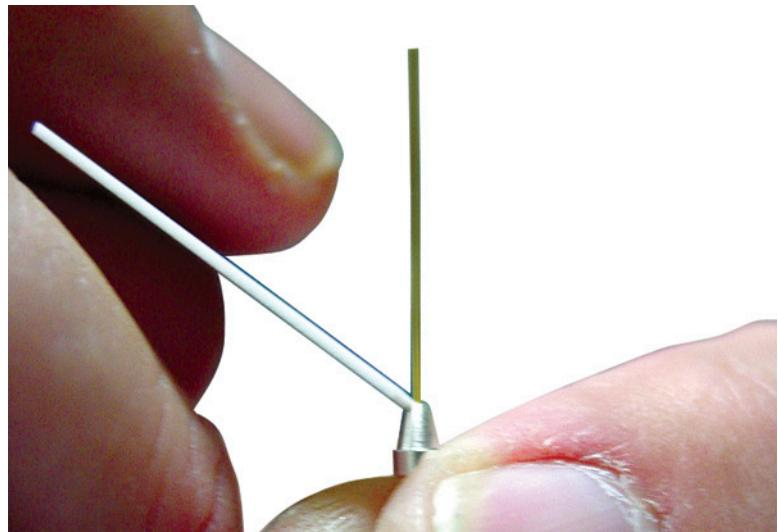

Figure 5 Ceramic column cutter and ferrule
- 5 Using a column cutter, trim the tubing at the small end of the ferrule leaving approximately 0.3 mm of tubing extending (Figure 5).